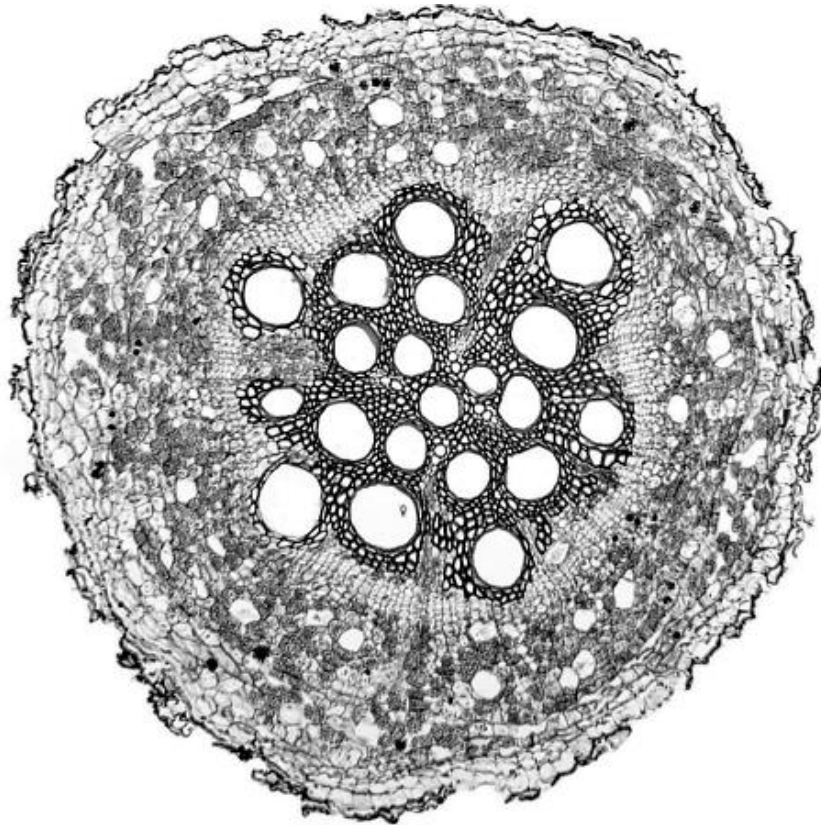

Fig. 2.2
- (ii) Fig. 2.2 is a photomicrograph of a stained transverse section through the root of a *Solanum lycopersicum* tomato plant. You are not expected to be familiar with this specimen.
Prepare an appropriate table so that it is suitable for you to record the observable differences between the root on **K1** and the root in **Fig. 2.2**.